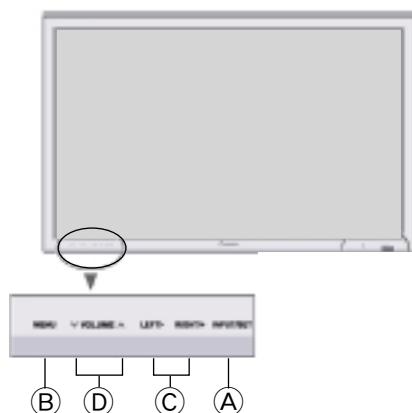

Fig. 5
- Press the input 5 key on RUC or INPUT/SET (A) key.
- Press the Menu key (B) to open the Service factory Menu.
- Press the RIGHT+/RIGHT- key (C) to select the adjustment item.
- Press the VOL+/VOL- (D) to execute the adjustment.
- Press the Menu key (B) to close the service factory mode. (See Fig. 5)